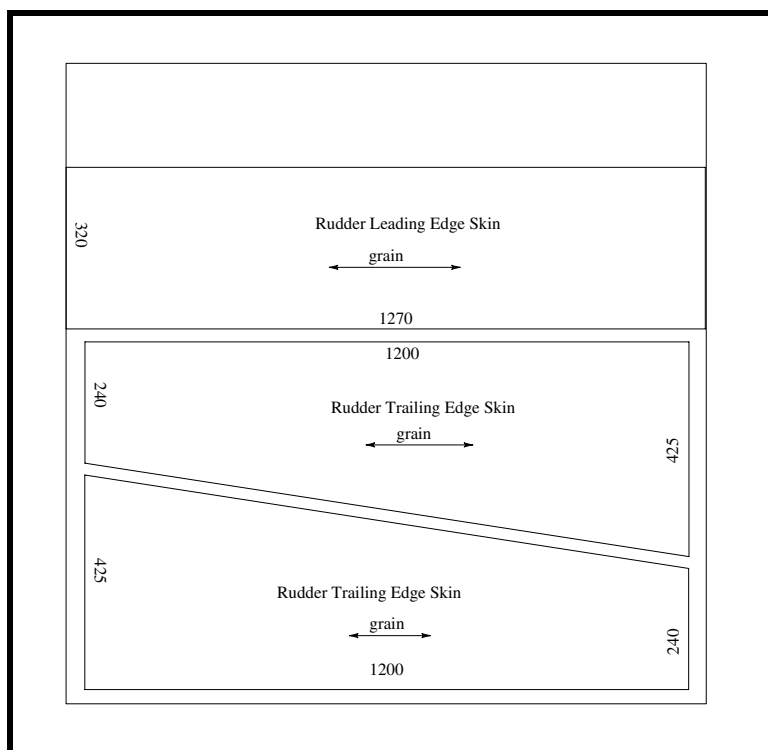

Figure 2
- ❑ Use one 50"x50" sheet of 1.2mm birch plywood and cut in accordance with Figure 2.